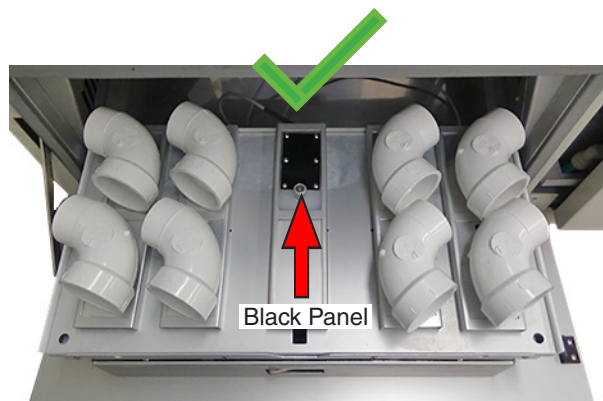

Figure 12.5d: Black panel must be uncovered.
- Mount three-dimensional specimens far enough away from the black panel to avoid casting a shadow on it (Figure 12.5d).